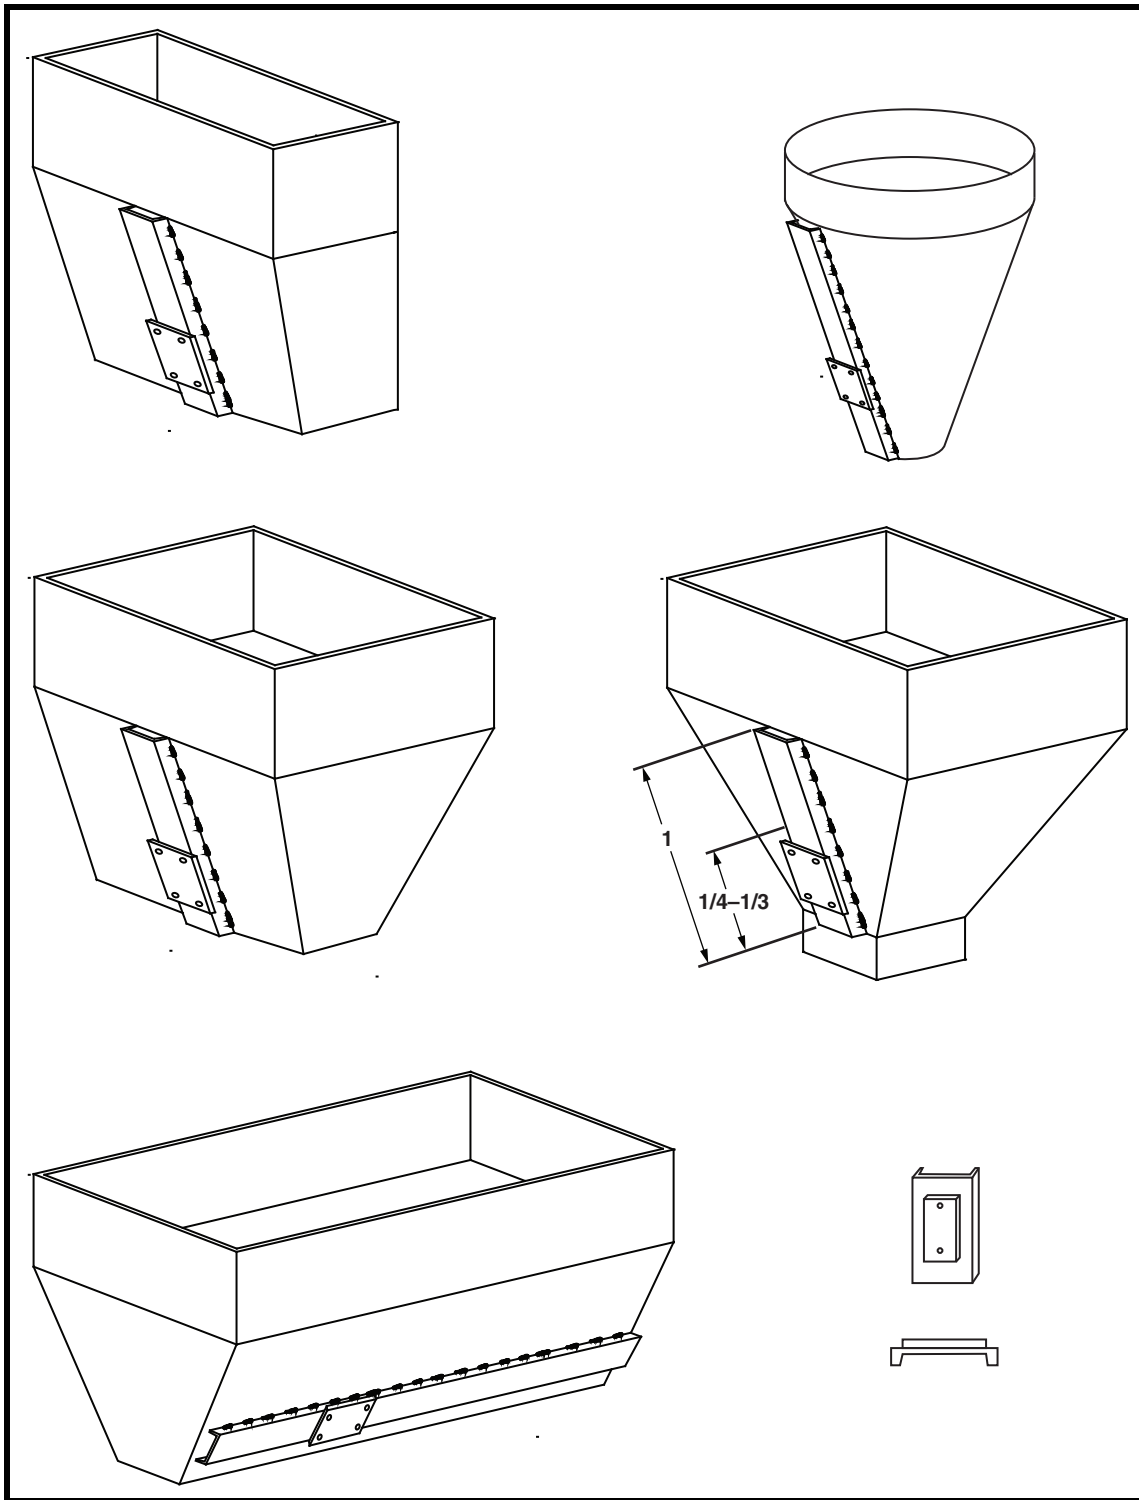

Figure 1. Typical Vibrator Mount Locations
1. See Figure 1. Locate vibrator in lower 1/4 to 1/3 of structure slope length. If second vibrator is required, mount 180° from first vibrator and halfway up slope.
- a. Locate reinforcing beam so vibrator can be positioned as shown in Figure 1.
- b. Locate plate so that vibrator can be positioned as shown in Figure 1.